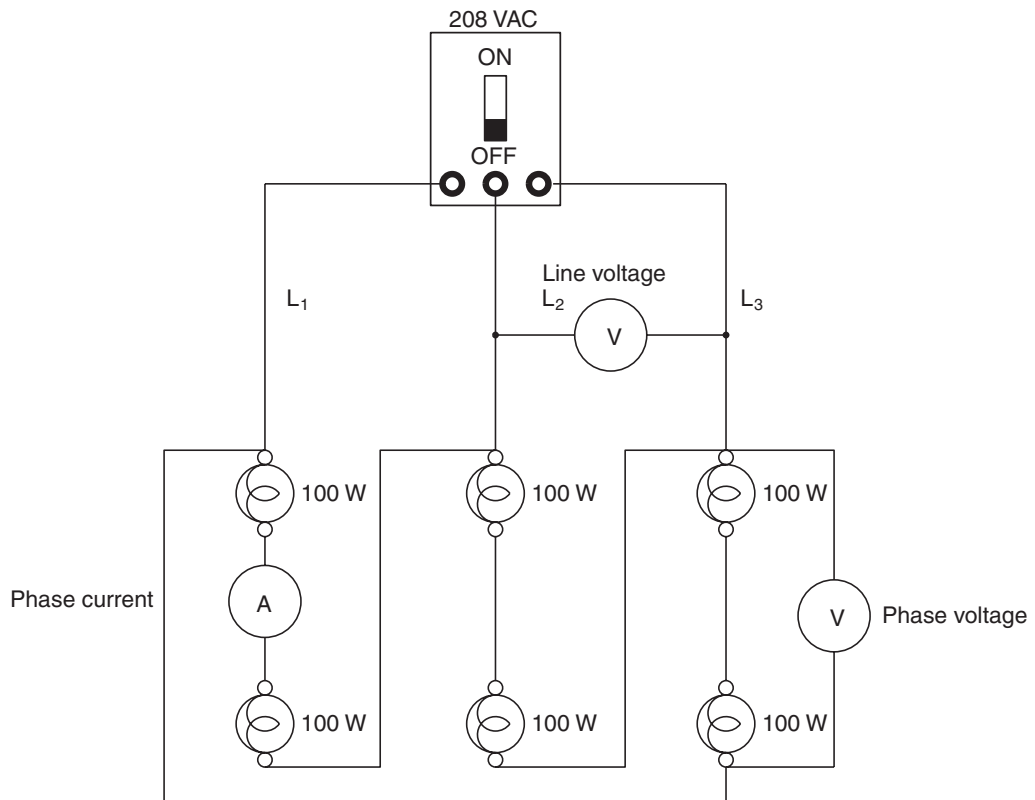

Figure 23-23 Measuring the voltage and phase current values of a delta connected load.
17. Reconnect the circuit as shown in Figure 23-23.